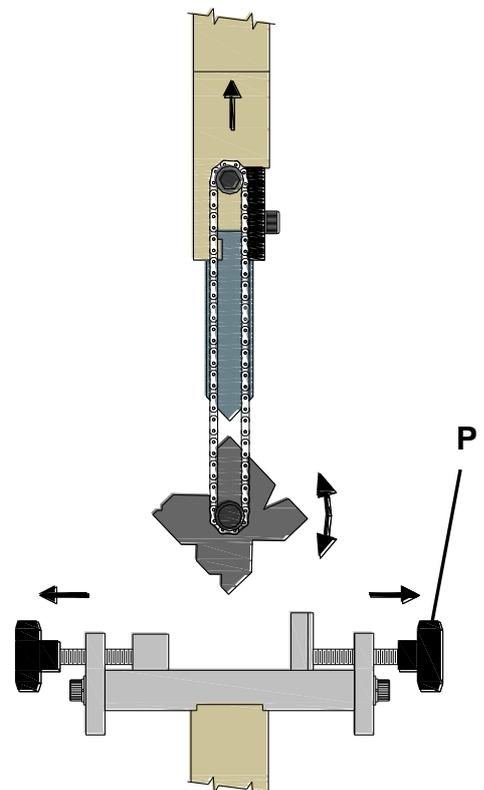

figure 22
3. Loosen the four hold down clamps (**P**) which secure the die to the bolster (fig. 22).